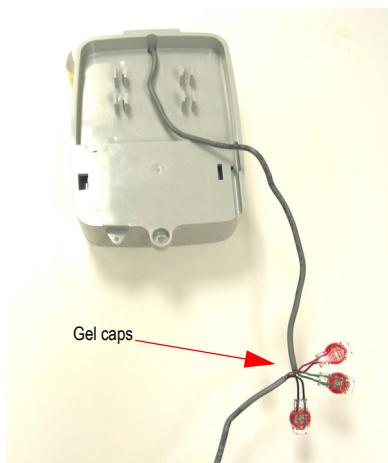

Figure 16 Gel Cap Connections
- 1 Using Scotchloks Gel Caps, connect the register wires to the pigtail from the MIU. See Figure 16.